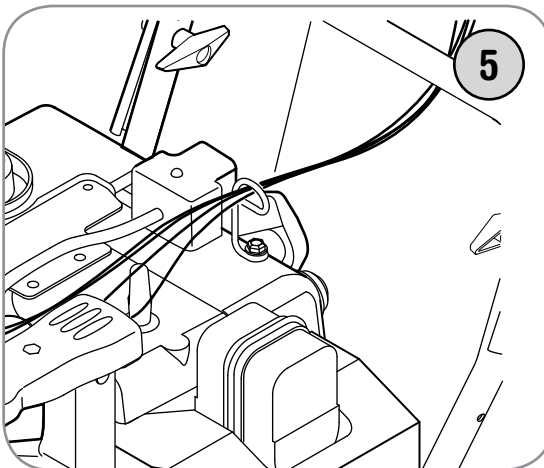

Figure 5
5. Check that all cables are properly routed through the cable guide on top of the engine. See Figure 5.